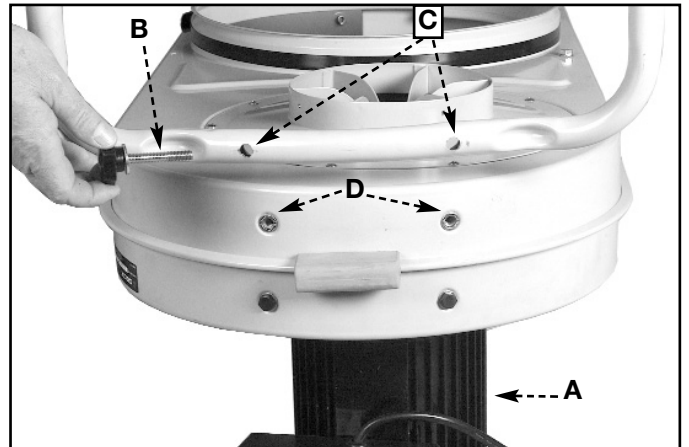

Fig. 2
1. Place motor/blower assembly with the motor (A) Fig. 2 down.
2. Place 5/16" flatwasher on knob (B).
3. Align holes on legs (C) with holes (D) in the motor/blower assembly. Legs should extend up. Insert knob through hole in the legs (C) and into threaded hole in the motor/blower assembly (D). Tighten knob securely.